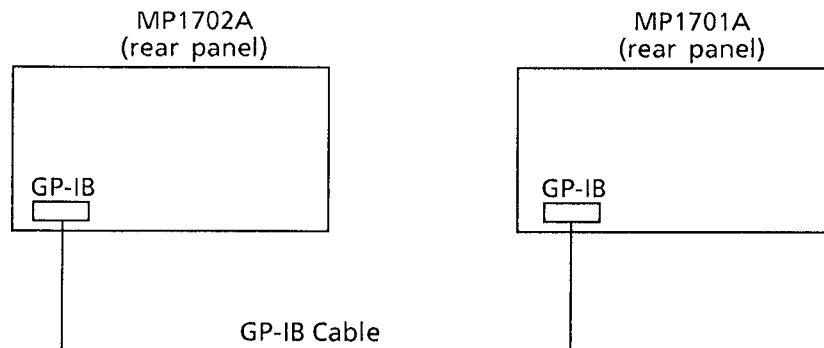

Fig. 5-6 Setup
- 1 Connect the MP1702A to the MP1701A as shown in Fig. 5-6.